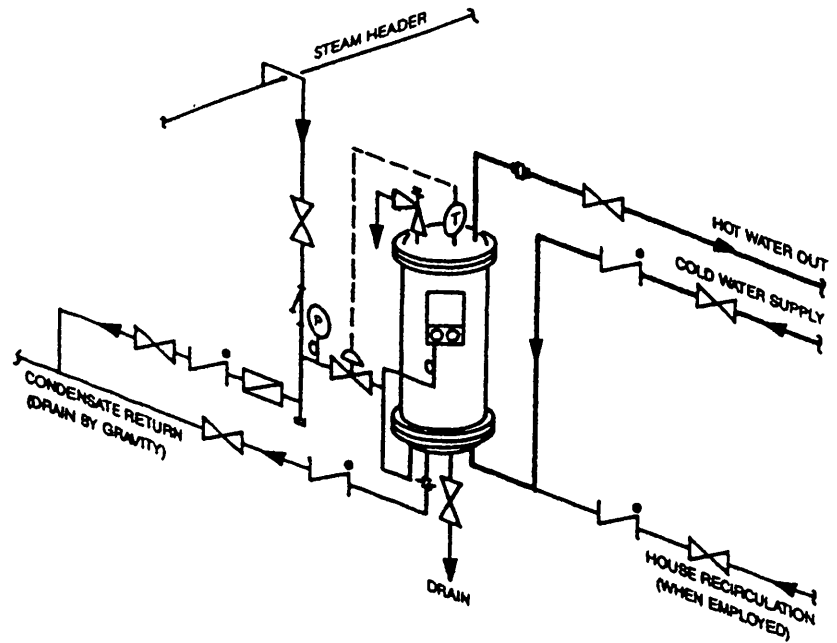

Figure HE-104-2 -- Piping Connections for a Single Heater
All other items -- stop valves, check valves, strainers, unions or flanges, and other piping and fittings as shown in Figures HE-104-2 through HE-104-5 -- are to be furnished by others.
- Single Heater -- Figure HE-104-2
- d. Include all of the stop valves, check valves, steam traps, and other elements in the piping as shown in Figure HE-104-2, HE-104-3, HE-104-4, or HE-104-5, or as separately specified by AERCO. Note that the check valve shown at the Heater in the Condensate return line is furnished in the piping package assembly by AERCO.
- CM7. Steam supply line is not properly trapped. Install a trap as indicated in Figure HE-104-2, HE-104-3, HE-104-4, or HE-104-5.